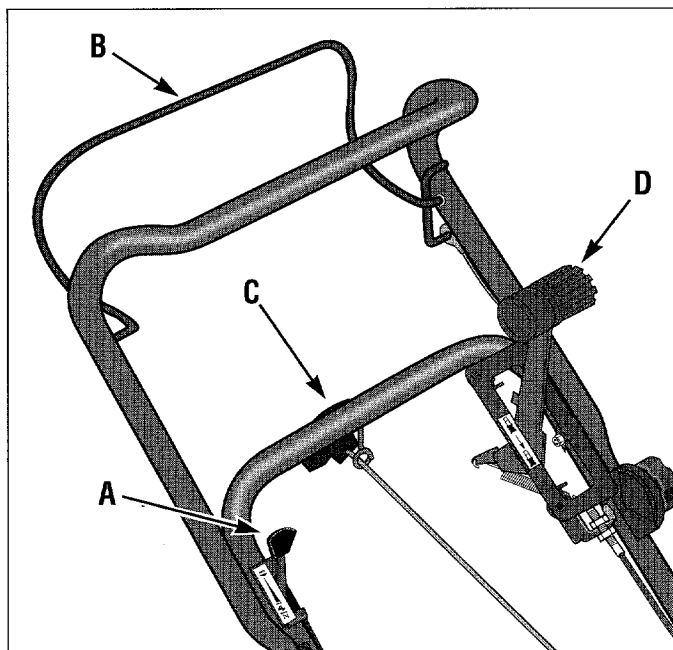

Figure 4-5: Operating controls on Models 34021, 34021C, 34321 and 34321C.
- C. Move the Wheel Drive Lever (D, Figure 4-5) back to the DISENGAGE position.
- D. Move the Engine Speed Lever (A in Figure 4-5) forward past the FAST position to the CHOKE position.
- E. Stand in the operator's position and squeeze the Operator Presence Control Bar (B) against the handlebar.
- F. Firmly grasp the Recoil Starter Rope Handle (C, Figure 4-5). Slowly pull the Recoil Starter Rope Handle rearward until there is resistance from engine compression.
I. When the engine starts, move the Engine Speed Lever (A) to the FAST speed setting. The mower blade is now turning.
- A. Move the Wheel Drive Lever (D) forward to the ENGAGE position. The mower will move forward.